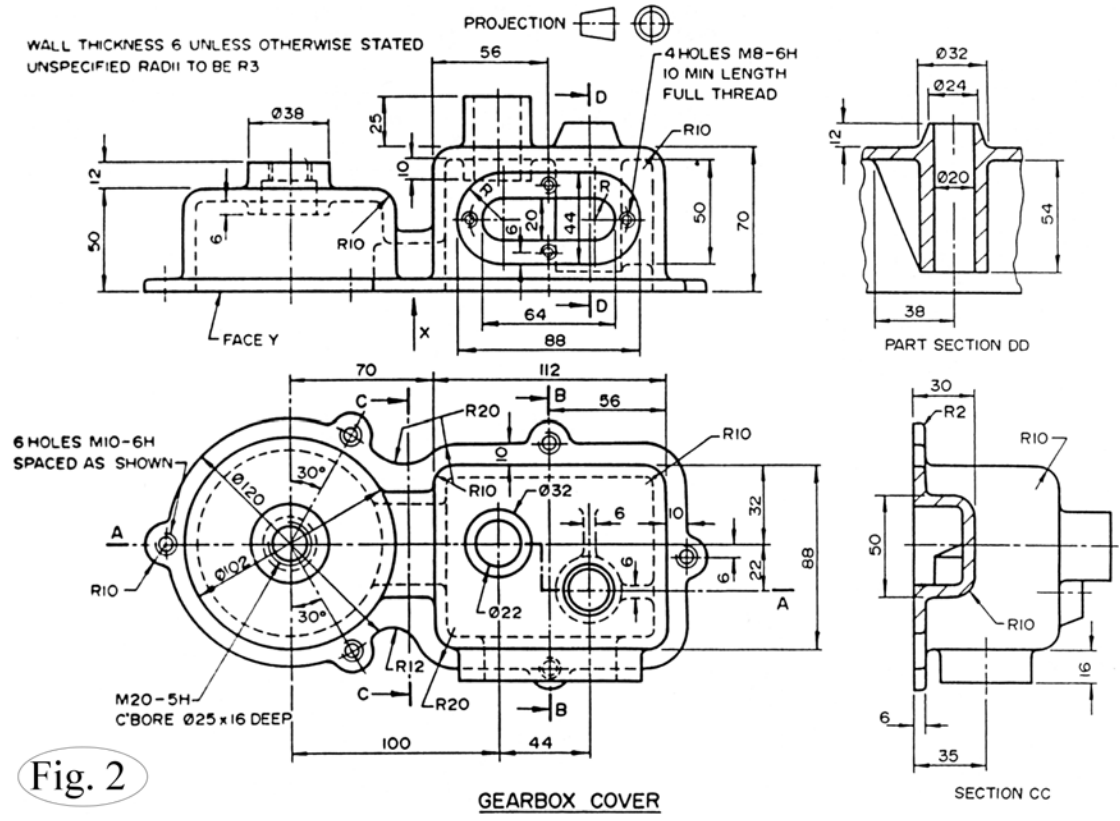

Fig. 2
1. Reproduce the given elevation and plan of the **GEARBOX COVER** as shown in **Fig. 2**.